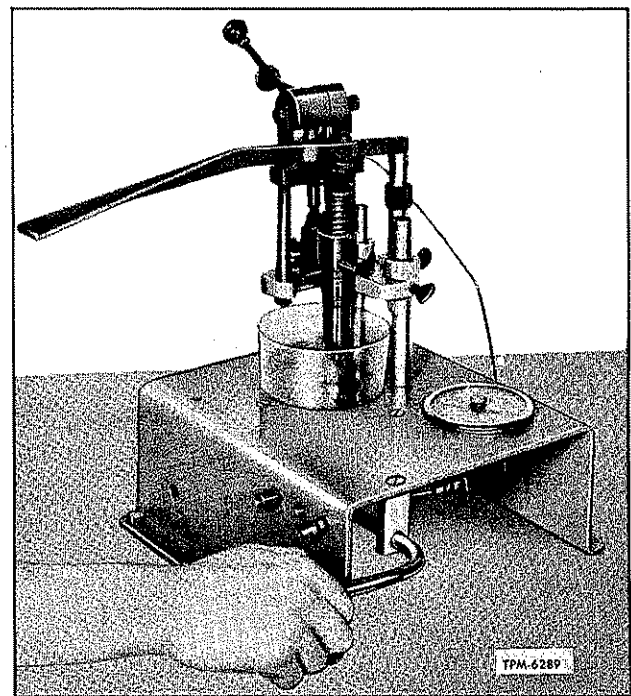

Figure 11—Pumping Up Testing and Popping Fixture
3. With the injector rack in FULL FUEL position, pump handle of test fixture with smooth even strokes (fig. 11) and record the injector valve opening (pop) pressure, indicated when injector sprays fuel. The pop pressure should be 450 to 850 psi. If the pop pressure does not fall within the above range, refer to "Low or High Pop Pressure" chart at end of this section.